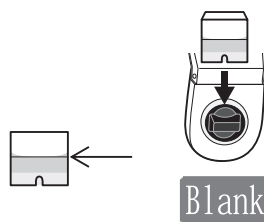

Fig.1
3. Insert the cell filled with the pretreated sample (with R-4 reagent, cooled down till the room temperature 20°C) into the cell box. Press <Blank>. (Fig.1)